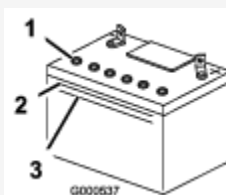

Figure 51
3. Look at the side of the battery. The electrolyte must be up to the **upper** line (Figure 51). Do not allow the electrolyte to fall below the lower line (Figure 51).
5. Remove the vent caps from the battery (Figure 51).
6. Slowly pour distilled water into each battery cell until the electrolyte level is up to the Upper line (Figure 51) on the battery case.
7. Wait 5 to 10 minutes after filling the battery cells. Add distilled water, if necessary, until the electrolyte level is up to the Upper line (Figure 51) on the battery case.